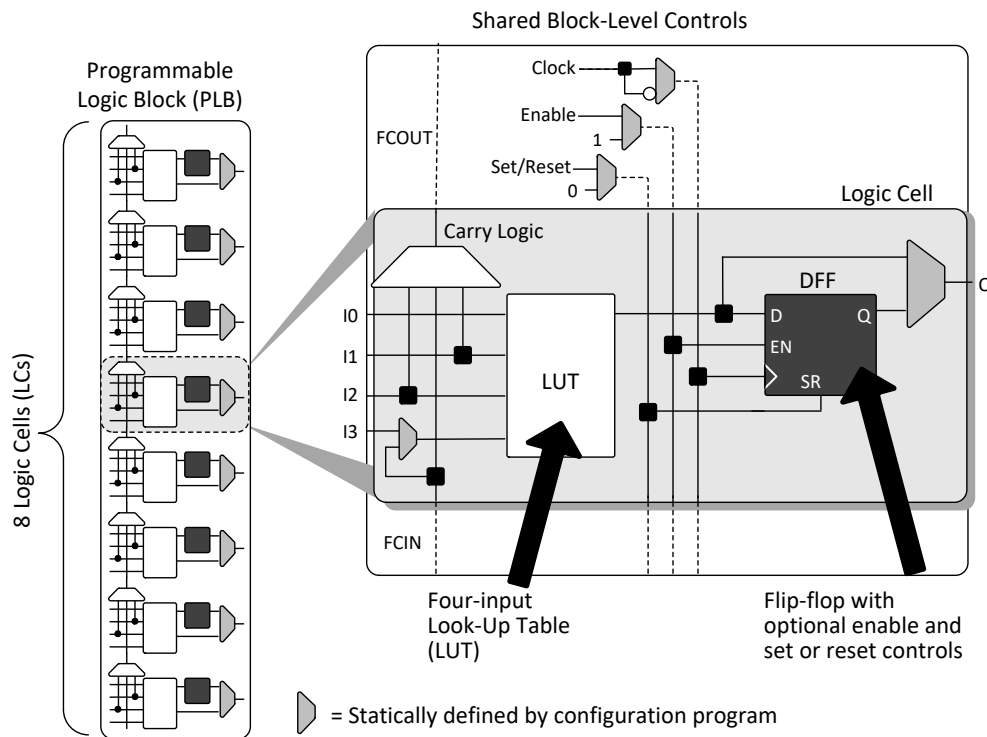

Figure 3.2. PLB Block Diagram
The core of the iCE40 UltraPlus device consists of Programmable Logic Blocks (PLB) which can be programmed to perform logic and arithmetic functions. Each PLB consists of eight interconnected Logic Cells (LC), as shown in Figure 3.2. Each LC contains one LUT and one register.
Each Logic Cell includes three primary logic elements shown in Figure 3.2.